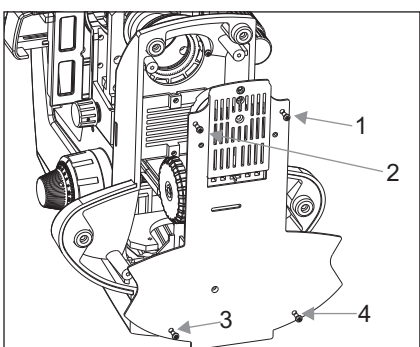

Fig. 7
2. Using a screw driver, unscrew four screws (1 to 4) from (figure 7) to open the base of the microscope.